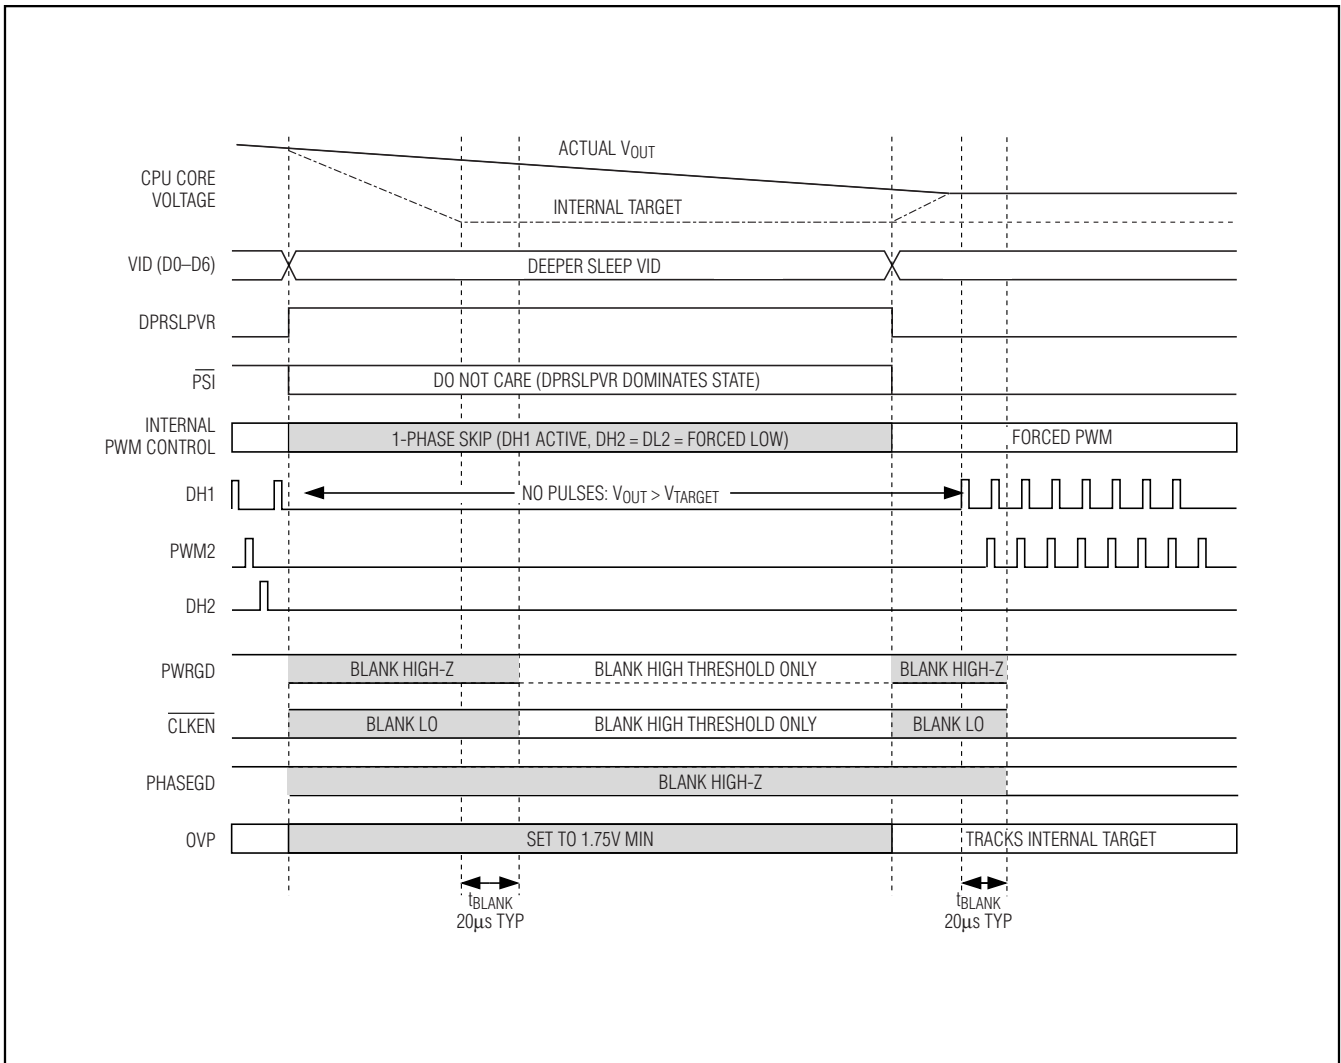

Figure 4. C4E (C4 Early Exit) Transition
When DPRSLPVR goes high, the MAX8770/MAX8771/MAX8772 immediately disable phase 2 (DH2 and DL2 forced low), blank PHASEGD high impedance (MAX8771 only), and enter pulse-skipping operation (see Figures 4 and 5). If the VIDs are set to a lower voltage setting, the output drops at a rate determined by the load and the output capacitance. The internal target still ramps as before, and CLKEN and PWRGD upper and lower thresholds remain blanked until 20µs after the internal target reaches the programmed VID code. Once this time expires, PWRGD monitors only the lower threshold:
- **Fast C4E Deeper Sleep Exit:** When exiting deeper sleep (DPRSLPVR pulled low) while the output voltage still exceeds the deeper sleep voltage, the MAX8770/MAX8771/MAX8772 quickly slew (50mV/µs min regardless of R_{TIME} setting) the internal target voltage to the DAC code provided by the processor as long as the output voltage is above the new target. The controller remains in skip mode until the output voltage equals the internal target. Once the internal target reaches the output voltage, phase 2 is enabled. The controller blanks PWRGD, PHASEGD, and CLKEN (forced high impedance) until 20µs after the transition is completed. See Figure 4.